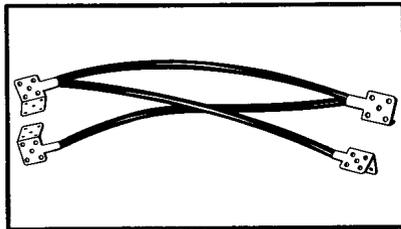

FIGURE 5. Type GH-8 Grounding Harness
3.05 Type GH-8: Used for interconnecting the shields of APFSP cables in buried splices. Consists of four tinned Termi-foil connectors crimped to No. 14 AWG tinned stranded copper conductors insulated with green PVC. The overall length is 6 inches. See Figure 5.